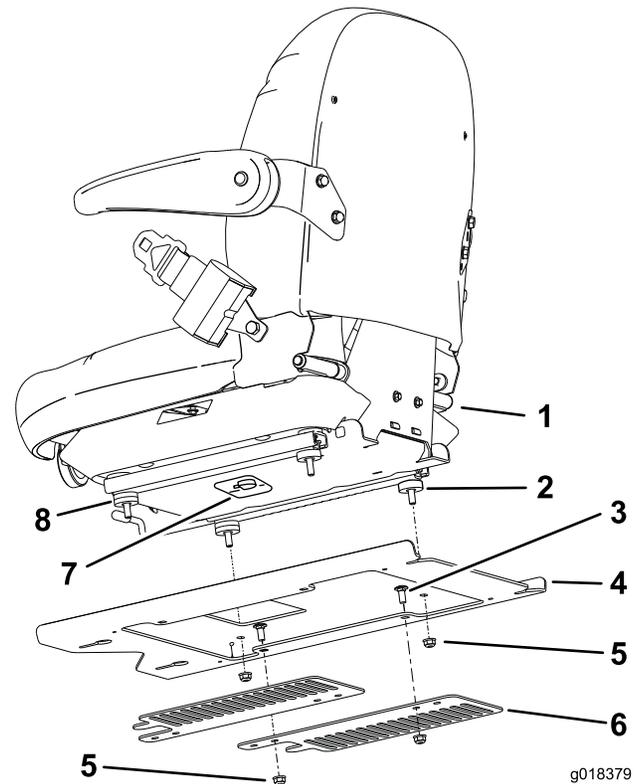

Figure 2
2. Secure the seat plate to the seat with 4 flange nuts (5/16 inch) (Figure 2).
7. Slide the seat and seat plate rearward to lock the front nuts into the key hole and the rear nuts into the slots (Figure 2).